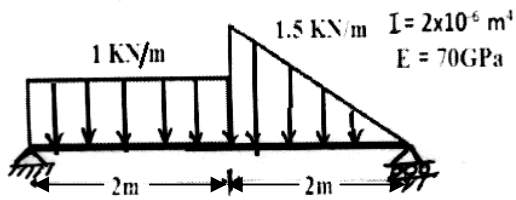

Fig. Q 7 (b)
- b. Find the deflection and slopes at the nodes for the aluminium beam shown in Fig. Q. 7(b). 16